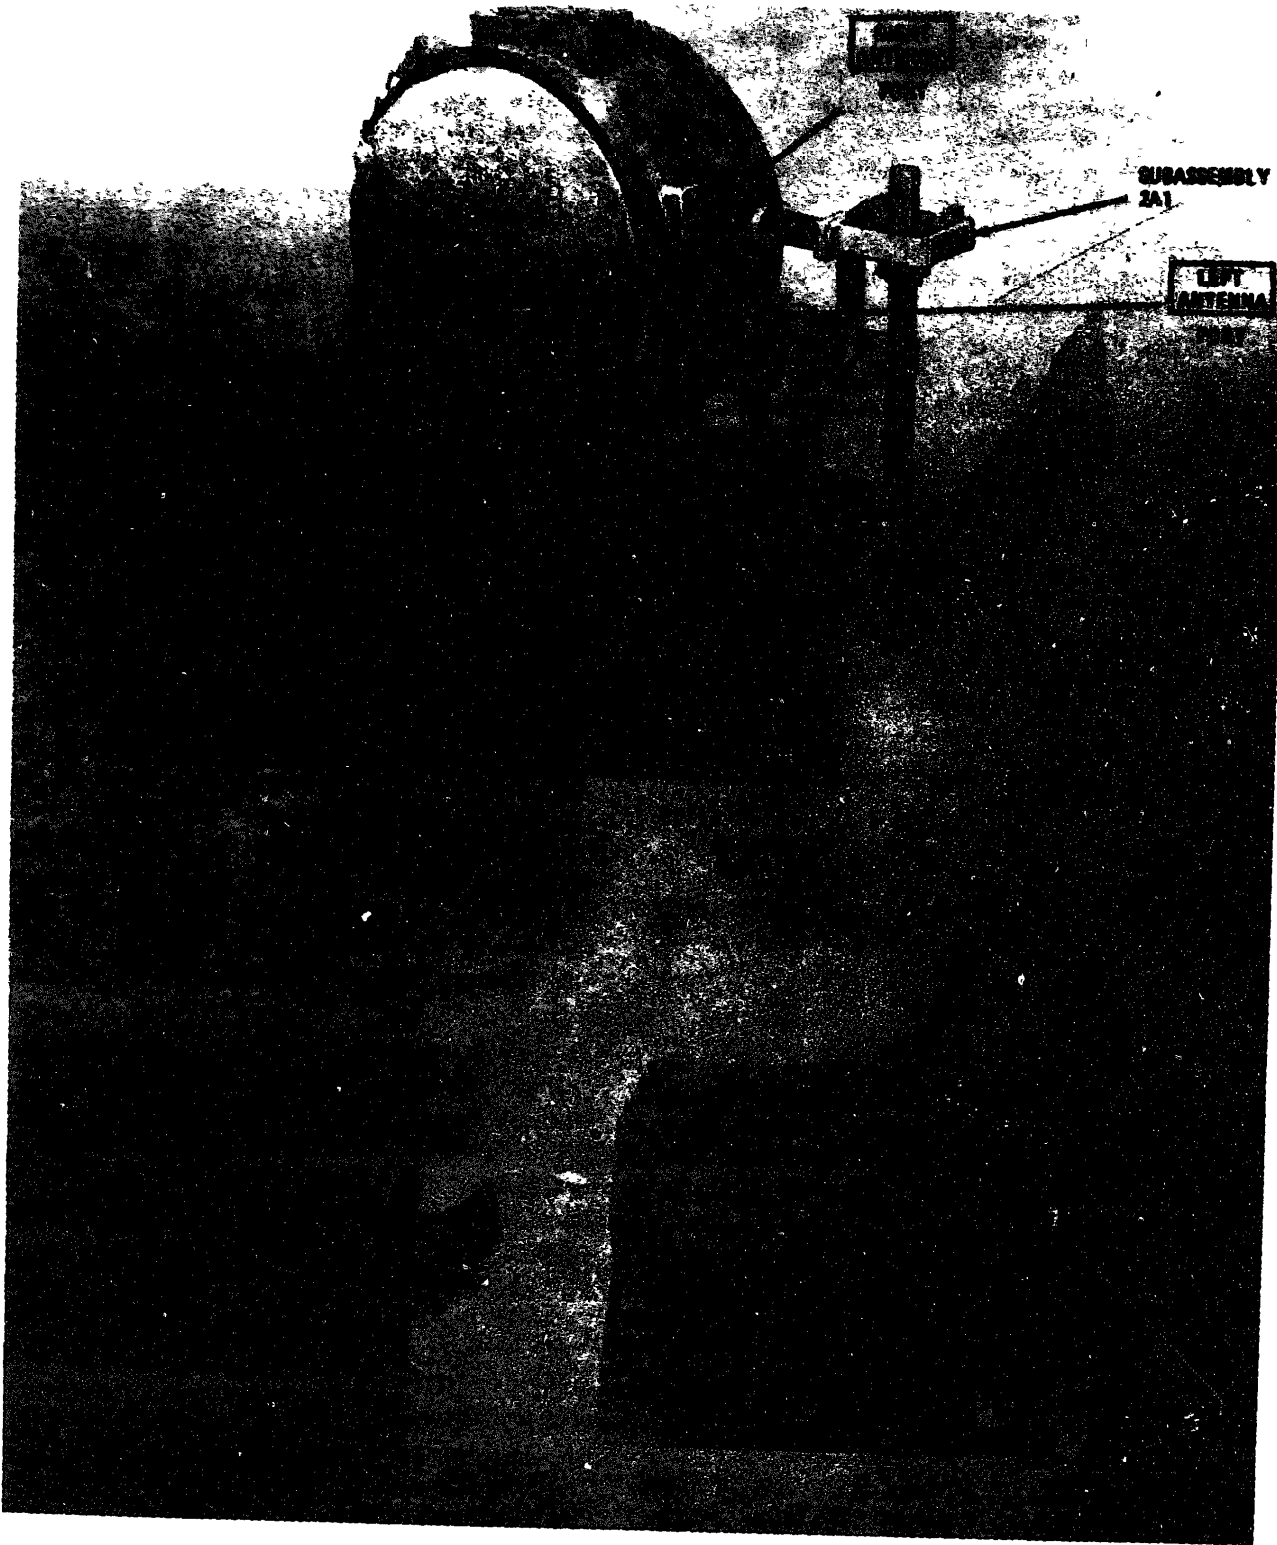

Figure 2-12. ***Mounting Subassembly 2A1 on Interface Test, Radio Frequency TS-2076/APS-64D and to Receiver-Transmitter, Radar RT-899/APS-64D.***
(fig 2-12)
a. Remove the eight phillips head screws - the flexible waveguide sections of subassembly 2A1 to the antenna ports of the receiver-transmitter (c, fig. 2-12).
(fig. 2-12)
a. Unlock the RF test set baseplate by removing the baseplate lock pin (A, fig. 2-12) and rotate it until the receiver-transmitter antenna ports face the operator.
b. Set the mounting plate of subassembly 2A1 on the **baseplate** of the RF test set (A, fig. 2-12) and carefully slide 2A1 onto the RF test set until the waveguide flange of attenuator 2A1AT4 mates with the waveguide flange of waveguide 2W16, (B, fig. 2-12) at the same time passing the quick-disconnect fork around the flange of attenuator 2A1AT4. Engage the waveguide quick-disconnect.
e. Secure the flexible waveguide sections of 2A1 to the receiver-transmitter waveguide antenna ports with the eight Phillips head screws supplied with the rf test set (C, fig. 2-12).